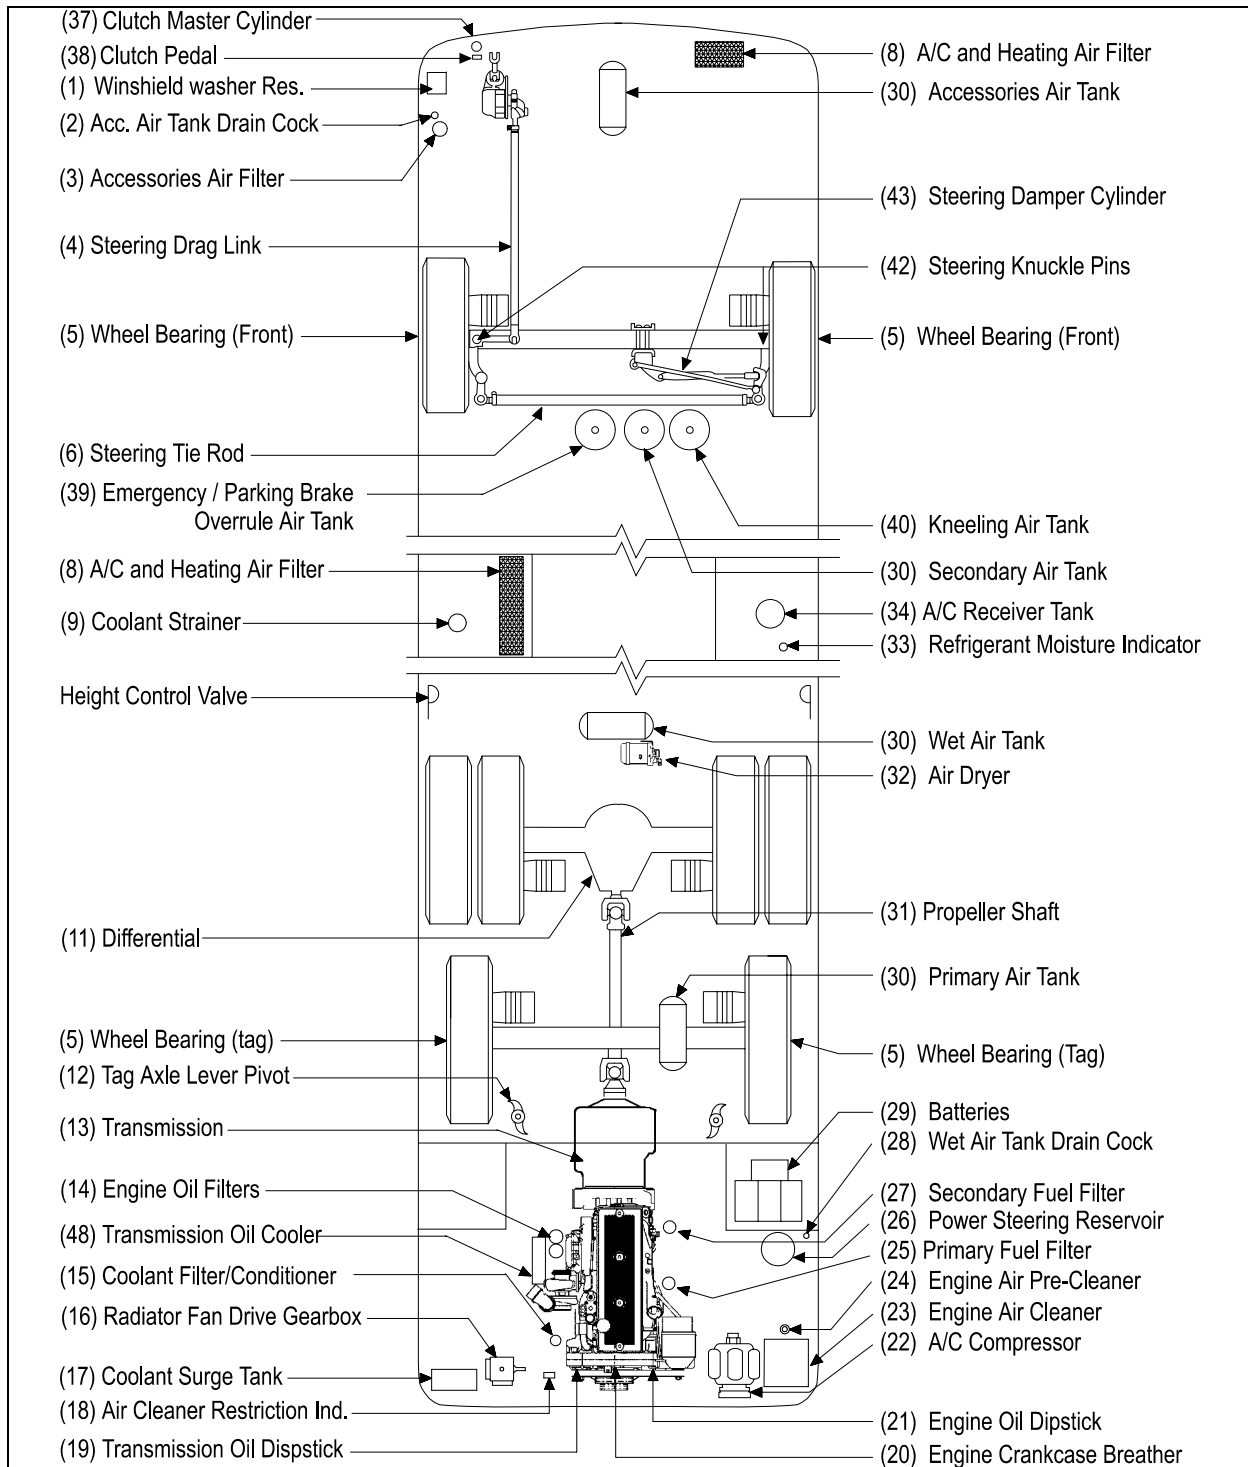

FIGURE 2: LUBRICATION AND SERVICING POINTS ON H3-41 AND H3-45 COACH MODEL (TYPICAL)
| FIGURE 2: LUBRICATION AND SERVICING POINTS ON H3-41 AND H3-45 COACH MODEL (TYPICAL) | 24-5 |
* Item numbers refer to figures 2 and 3.
- Item numbers refer to figures 2 and 3.